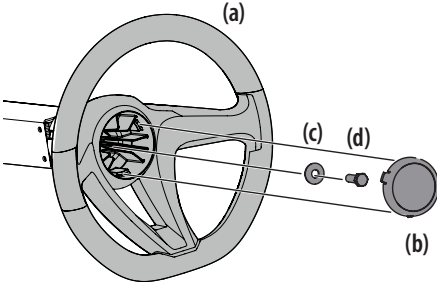

Figure 6
1. Remove the hardware for attaching the steering wheel (a) from beneath the steering wheel cover (b). Carefully remove the cover by inserting a small, bladed screwdriver into one of the three snap locations and slowly prying up on the steering wheel cover (b) to remove the hardware. See Figure 6.
2. With the wheels of the machine pointing straight forward, place the steering wheel (a) over the steering shaft. See Figure 6.
3. Place the Belleville washer (c) with the cupped side facing inward over the steering wheel and secure with the hex lock screw (d). See Figure 6.
4. Place the steering wheel cover (b) over the center of the steering wheel (a), align the three snaps with the tabs in the steering wheel and push downward until it “clicks” into place. See Figure 6.